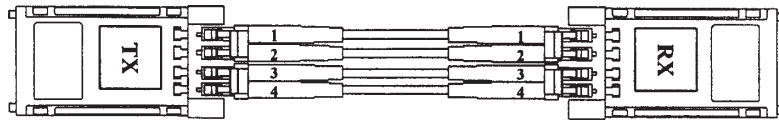

Figure 2-1
6. Remove the module dust covers and connect each duplex LC fiber cable one by one as shown in Figure 2-1. Plug 1 to 1, 2 to 2, 3 to 3 and 4 to 4. Carefully recheck polarities and ensure the duplex connectors are fully engaged.